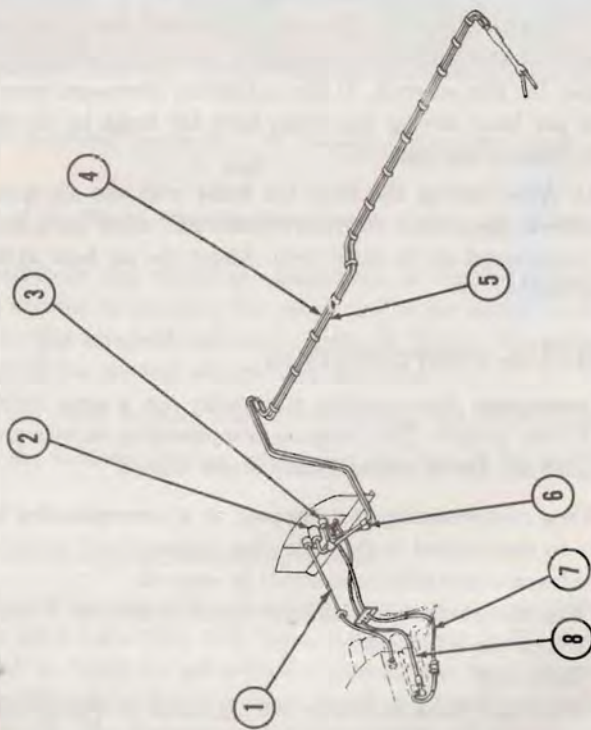

Figure 63—Instrument Lines
5. The accuracy of the airspeed indicator depends on proper maintenance of the pitot-static tube and lines. Refer to figure 63. Keep these lines clear of water by periodically opening the hose connections under the left side of the instrument panel and bleeding out the water accumulation. The frequency of this operation will depend on atmospheric conditions.